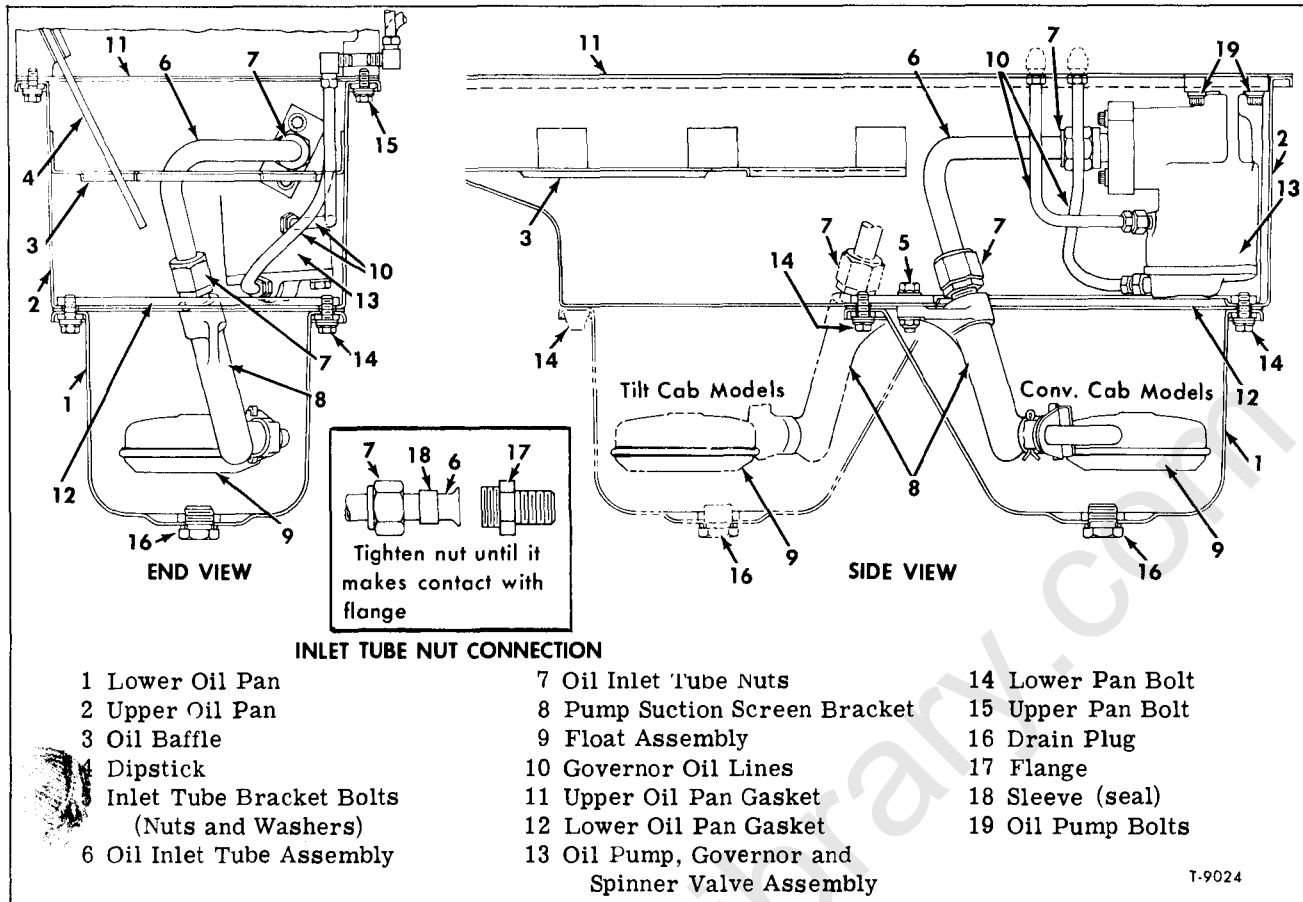

Figure 6—Oil Pan, Oil Pump, and Inlet Screen Installation (637 V-8 Engine)
(Key Numbers in Text Refer to Figure 6)
3. Remove lower oil pan bolts (14), then remove lower pan (1) and gasket (12).
4. Loosen upper and lower oil inlet tube nuts (7) see inset in figure 6.
5. Remove two bolts, nuts, and washers (5) attaching oil pump suction screen bracket (8) to upper pan (2).
6. Remove lower oil inlet tube nut (7), remove float assembly (9) and suction screen bracket (8).
**NOTE:** Use gasket cement to hold the oil pan gasket (11) in place at cylinder block and front cover. Tighten bolts evenly to 10 to 15 foot-pounds torque. Overtightening the bolts will distort the oil pan flange.
**IMPORTANT:** Make sure the sleeves (18) on oil inlet tube assembly (6) are in good condition and not distorted or damaged.
2. Install oil inlet tube assembly (6), and tighten upper nut (7) loosely on oil pump.
3. Install two bolts, washers, and nuts (5), attaching oil pump suction screen bracket (8) and float assembly (9) loosely to upper oil pan (2).
4. Align oil inlet tube assembly (6) with oil pump suction screen bracket (8) and connect lower inlet tube nut (7).
**IMPORTANT:** Tighten upper and lower oil inlet tube assembly nuts (7) until they make contact with flanges (17). Refer to inset in figure 6.
5. Tighten bolts (5) attaching bracket (8) to upper oil pan (2) to 8 to 12 foot-pounds torque.
6. Install lower oil pan (1) using new gasket (12) and bolts (14) which have threads coated with sealer to prevent oil leaks. Correct torque on lower pan bolts is 6 to 8 foot-pounds.
7. Install drain plug (16) with new gasket, then fill crankcase with engine oil to "FULL" mark on dip stick. Use oil as specified in LUBRICATION (SEC. 0) in this manual.
**INSTALLATION (Fig. 6)**
3. Align mounting bolt holes in pump flange with holes in block and install pump to block bolts (19).
4. Install oil lines (10) between fittings at spinner valve and cylinder block.